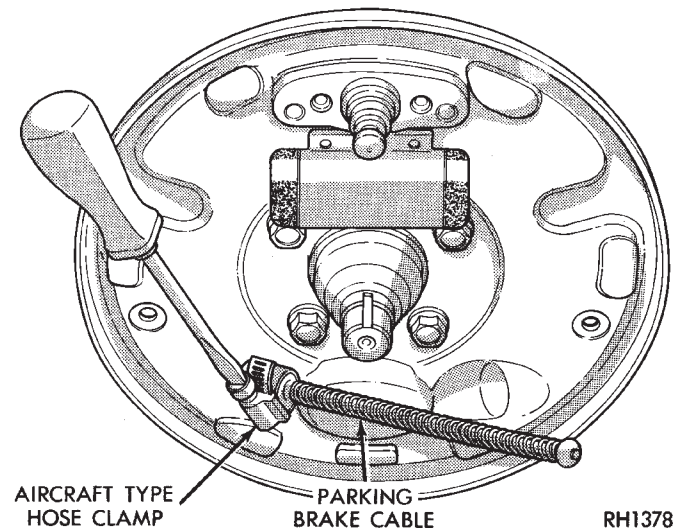

Fig. 1 Removing Brake Cable from Support Plate
(3) Using a suitable tool such as an aircraft type hose clamp or a 14 mm box wrench compress the flared legs on park brake cable retainer. Then pull the parking brake cable out of brake support plate (Fig. 1).